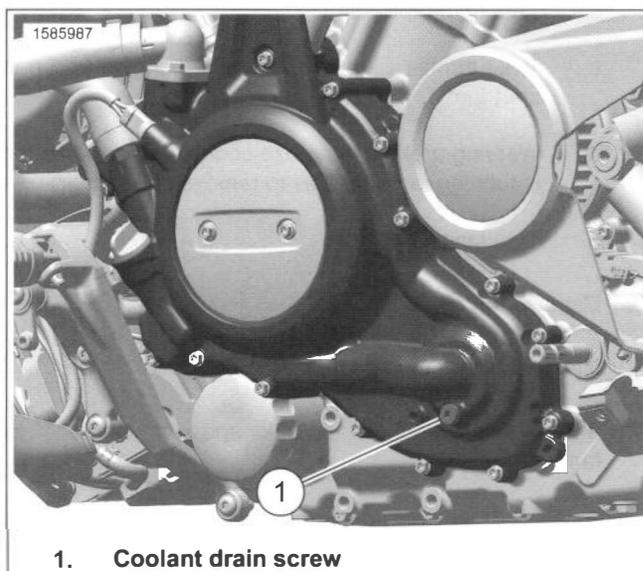

Figure 7-5. Coolant Drain Plug
2. See Figure 7-5. Drain cooling system.
3. Remove coolant drain screw (1).
- b. Install coolant drain screw (1).